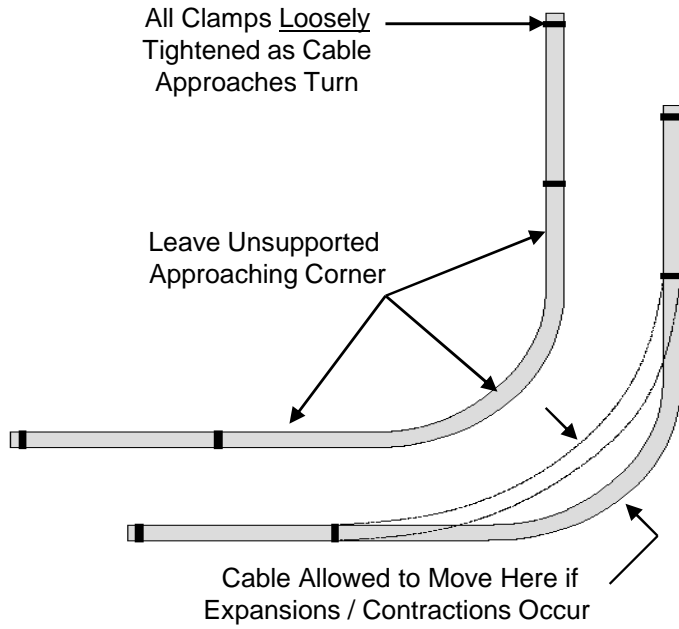

Figure 6
10.6 If a supported route goes around an inside corner, do not install fasteners where the tube cable approaches the corner and makes the turn. Allow the tube cable to move freely in the curve. **See Fig. 6.**